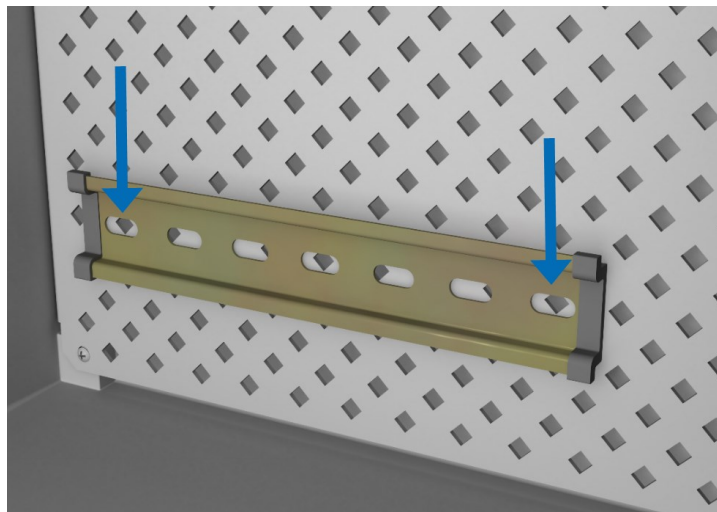

FIGURE 6-2. Determining the DIN-rail mounting hole locations
2. Locate the position to mount the DIN rail inside the enclosure (FIGURE 6-2 (p. 9)). There must be sufficient room on all sides to provide clearance for any component mounted on the DIN rail. Note the location of the backplate mounting holes at either end of the DIN rail.